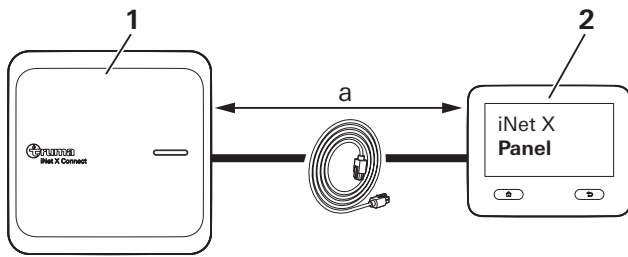

Fig. 2
- Position the Connect as close as possible to the panel (Fig. 2).
- Check whether the cable length is sufficient (Fig. 2).